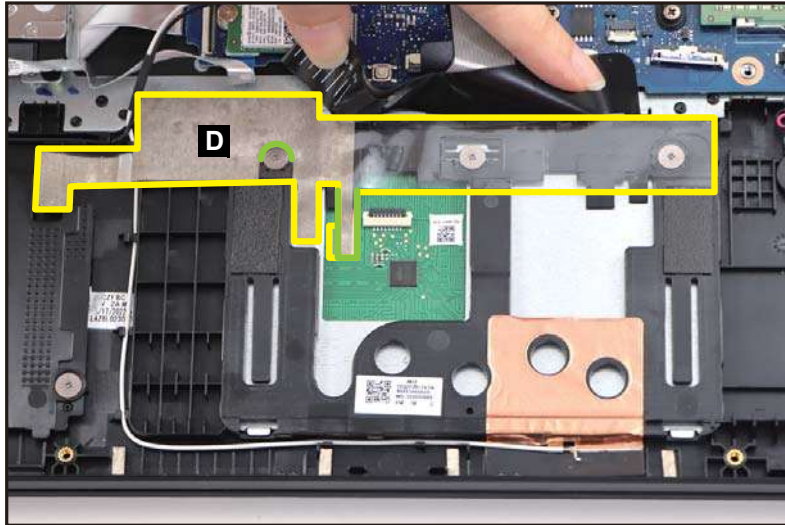

Figure 3-122. Replacing the Touchpad Module
4. Attach the touchpad conductive tape (D) onto the touchpad module and top assembly. Make sure the conductive tape is properly aligned and placed onto its slot highlighted by the yellow and green lines as shown in Figure 3-122.